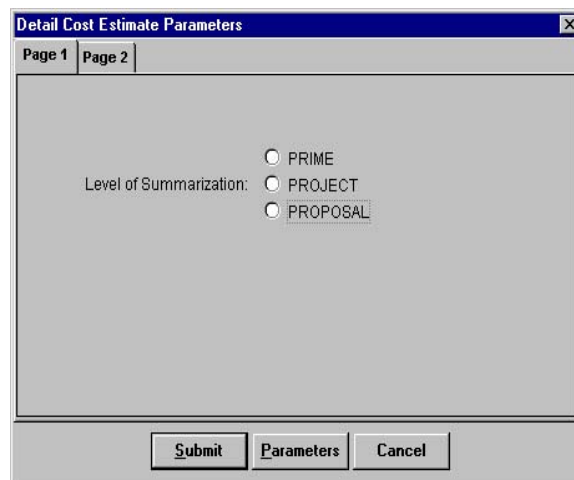

Figure 10-9. Detail Cost estimate Parameters Window
4. Click the PAGE 2 tab and select the level of summarization you want – that is, prime project or proposal – and click OK (see Figure 10-9).